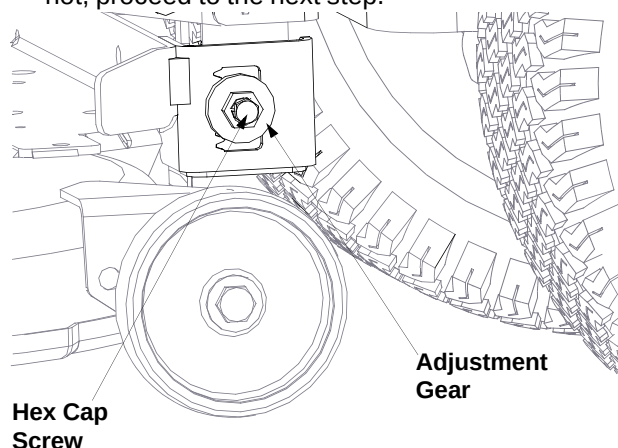

Figure 10
- Loosen, but do **not** remove, the hex cap screw on the left deck hanger bracket. See Figure 10.